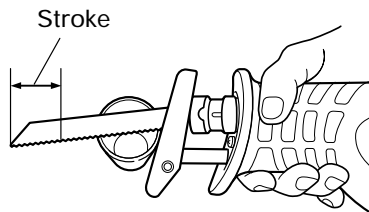
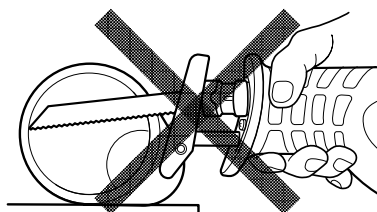
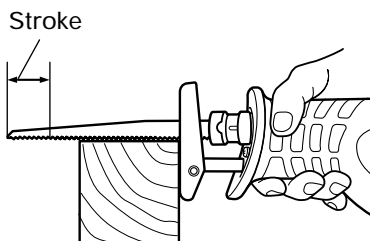
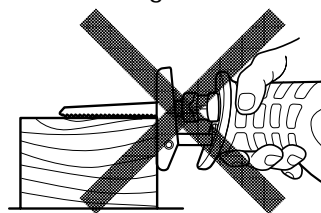

Fig. 14
Fig. 15
Fig. 16
Fig. 17
- Select a saw blade of the most appropriate length. Ideally, the length protruding from the base of the saw blade after subtracting the stroke should be larger than the material (see Fig. 14 and Fig. 16). If you cut a large pipe, large block of wood, etc., that exceeds the cutting capacity of a blade; there is a risk that the blade may contact with the inner wall of the pipe, wood, etc., resulting in damage. (Fig. 15, Fig. 17)